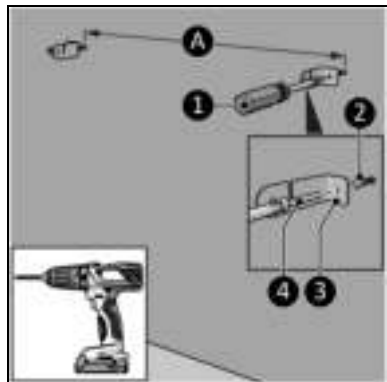
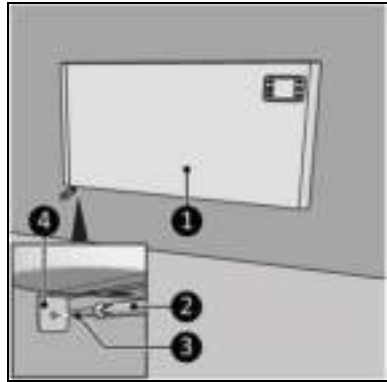

Figure 10
Figure 13
4. Drill two holes at least 610 mm above the floor for the brackets. The distance between the holes is approximately (Figure 10, pos. A)*:
5. Place wall plugs (Figure 10, pos. 2).
6. Screw and tighten a left and a right bracket (Figure 10, pos. 3) to the wall with a large screw (Figure 10, pos. 4) using a Phillips screwdriver (Figure 10, pos. 1).
15. Screw and tighten the device brackets (Figure 13, pos. 4) with a large screw (Figure 13, pos. 3) to the wall (Figure 10, pos. 3) using a Phillips screwdriver (Figure 13, pos. 2).